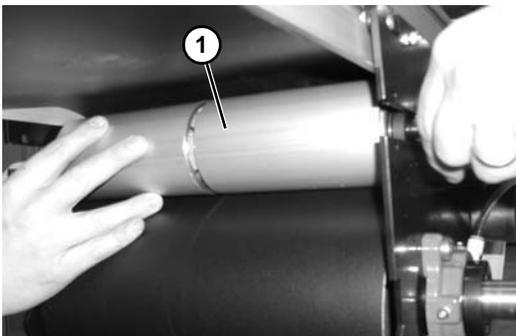

Figure 67
7. Slide out tensioning pulley (Figure 67, item 1).